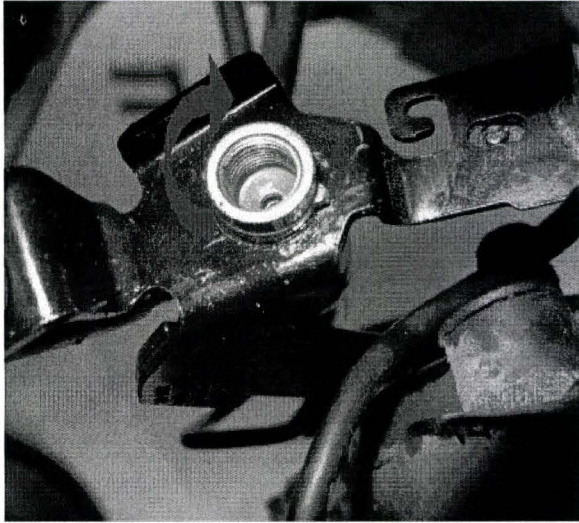

Figure 5
- Offer the pipe into the bracket, **IMPORTANT:** Should the pipe require turning to allow the pipe to locate into the bracket turn the pipe clockwise as this will minimise the twist of the hose as shown in Figure 5 until the two tangs locate within the bracket